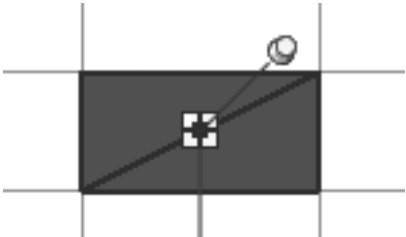

Figure 2–46
- If you do not want elements to be moved, select the elements and in the *Modify* tab, in the Modify panel, click  (Pin). Pinned elements can be copied, but not moved or deleted. Select the element and click the pin icon, as shown in Figure 2–46, or type the shortcut **UP** to free it.